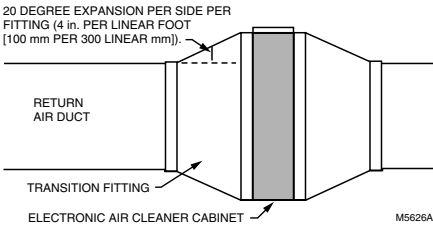

Fig. 2. Change duct size gradually to minimize turbulence.
Transitions are needed when the duct is a different size than the air cleaner cabinet. Gradual transitions reduce air turbulence and increase efficiency. Limit expansion to no more than 20 degrees (about 4 in. per running foot [100 mm per 300 linear mm]) on each side of a transition fitting. See Fig. 2.
- ☐ Install a transition if the furnace and air cleaner openings are different sizes. See Fig. 2.
- Install a transition if the opening in the air cleaner cabinet and the duct are different sizes. See Fig. 2.